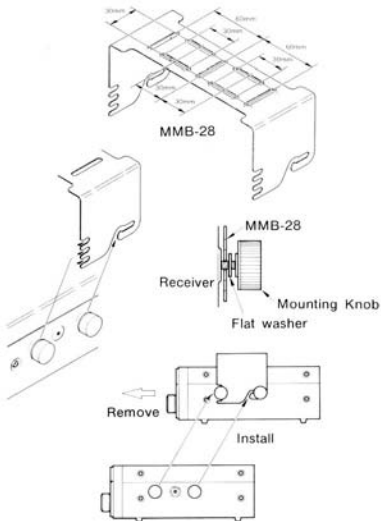

Figure 3
- (3) Referring to Figure 3, align the mounting knobs with the notches in the bracket, and slide the receiver backward and upward into the bracket. Then tighten the knobs to affix the receiver securely.